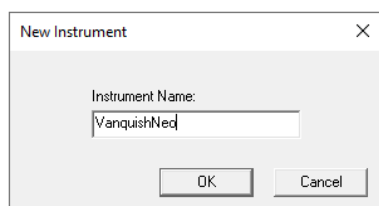

Figure 2: New instrument
2. Open the Chromeleon Instrument Configuration Manager and add or select an instrument. For Xcalibur /SII for Xcalibur installations, open Xcalibur Instrument Configuration, select SII for Xcalibur and configure a new instrument (Figure 2).